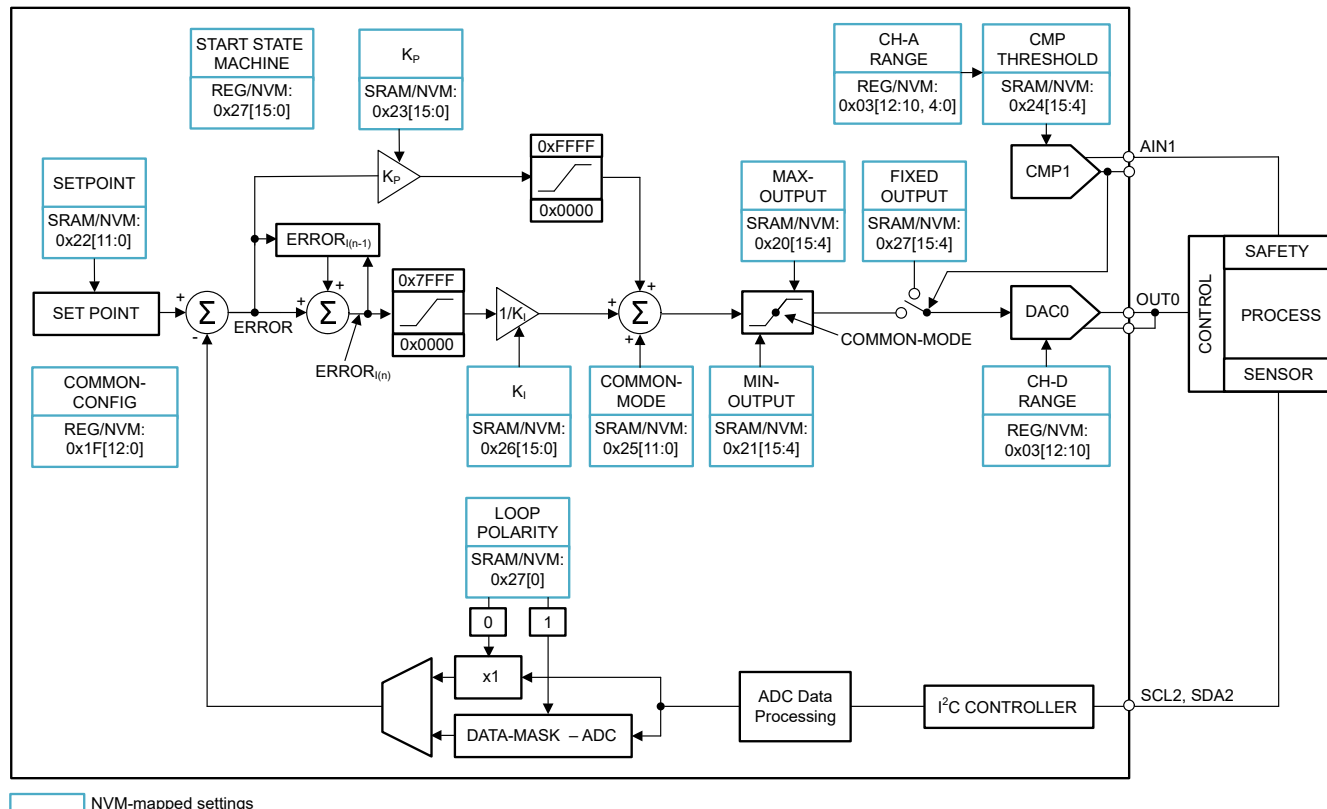

Figure 7-9. PI Controller Architecture of AFE639D2
The AFE639D2 provides a preprogrammed PI controller state machine, as shown in Figure 7-9. An external digital temperature sensor is used as the input and DAC channel 0 is used as the output. DAC channel 1 is used as a comparator that is used to set the output of DAC channel 0 to a value specified by the FIXED-OUTPUT field. Table 7-13 lists all the input/output pin names and functions.
2. Connect the external temperature sensor or ADC input, comparator input, and DAC output as shown in Figure 7-9.